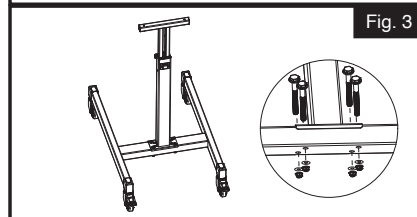

Fig. 3
5. Place the support frame assembly onto the base frame as shown, paying attention to the front and rear orientation. Insert four M6 bolts through the holes and fasten with M6 washers and M6 lock nuts using the 10 mm and 14 mm wrenches. (Fig. 3)